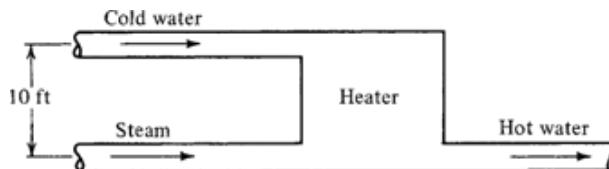

Figure P2.14
**2.14** Cold water with an enthalpy of 8 Btu/lbm enters a heater at the rate of 5 lbm/sec with a velocity of 10 ft/sec and at a potential of 10 ft with respect to the other connections shown in Figure P2.14. Steam enters at the rate of 1 lbm/sec with a velocity of 50 ft/sec and an enthalpy of 1350 Btu/lbm. These two streams mix in the heater, and hot water emerges with an enthalpy of 168 Btu/lbm and a velocity of 12 ft/sec.